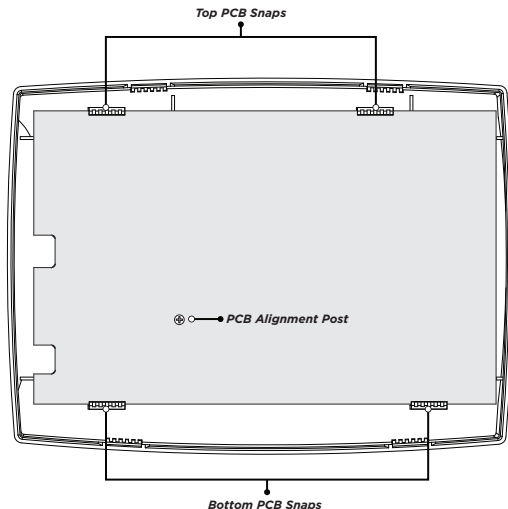

Figure 9: PCB Snaps
2. Loosen the top PCB snaps. See Figure 9.
1. Set the PCB into the bottom snaps with the elastomer keyboard already in place. See Figure 9.